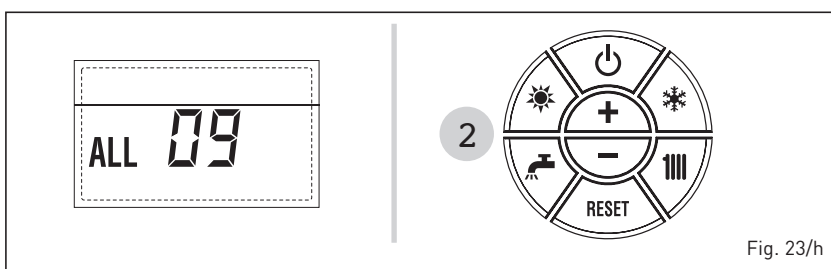

Fig. 23/h
**- AUXILIARY SENSOR ERRORS ALARM 10 (fig. 23/i)**